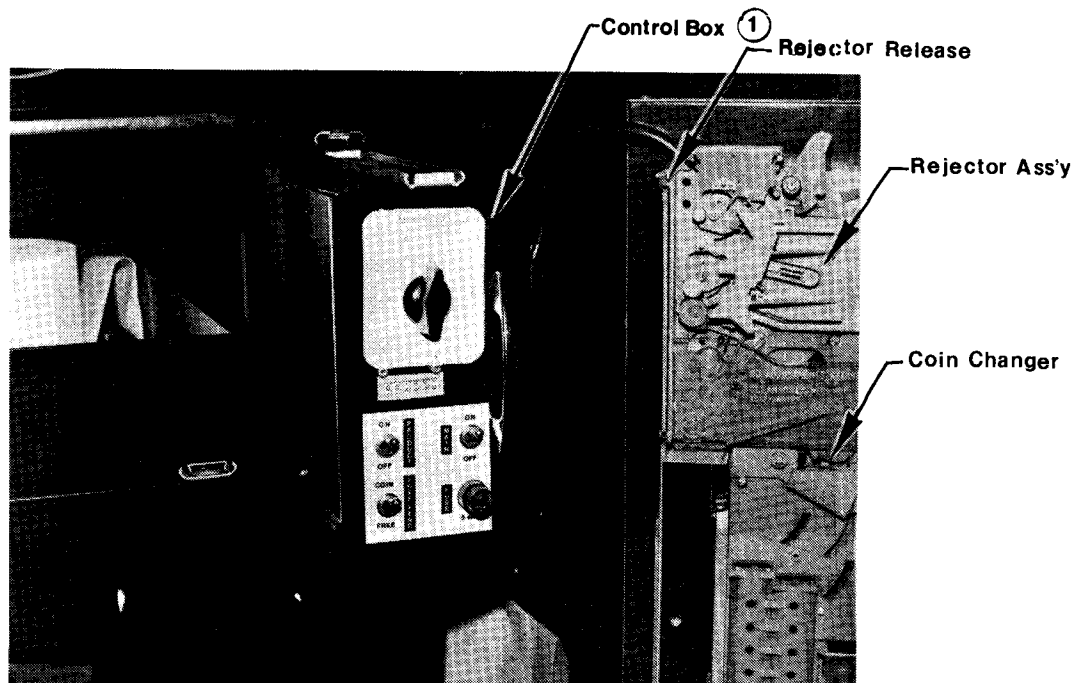

Fig. 8
- Turn main switch on front of control box to "off". (FIGURE 8)
The control box, Item 1, Fig. 8 below, also plugs into the 115 VAC junction box. The control box is mounted on a slide that permits easy access to its components. To slide the control box out, remove the screw holding the retaining bracket and pull box out to stops.